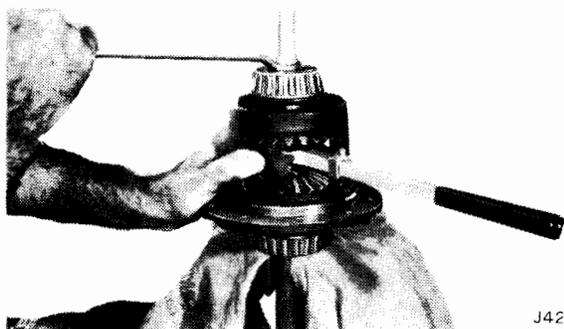

Fig. 10-76 Starting Pinion Gears into Case
(10) Install both differential pinion gears in case. Be sure bores of gears are aligned. Hold gears in place by hand (fig. 10-76).